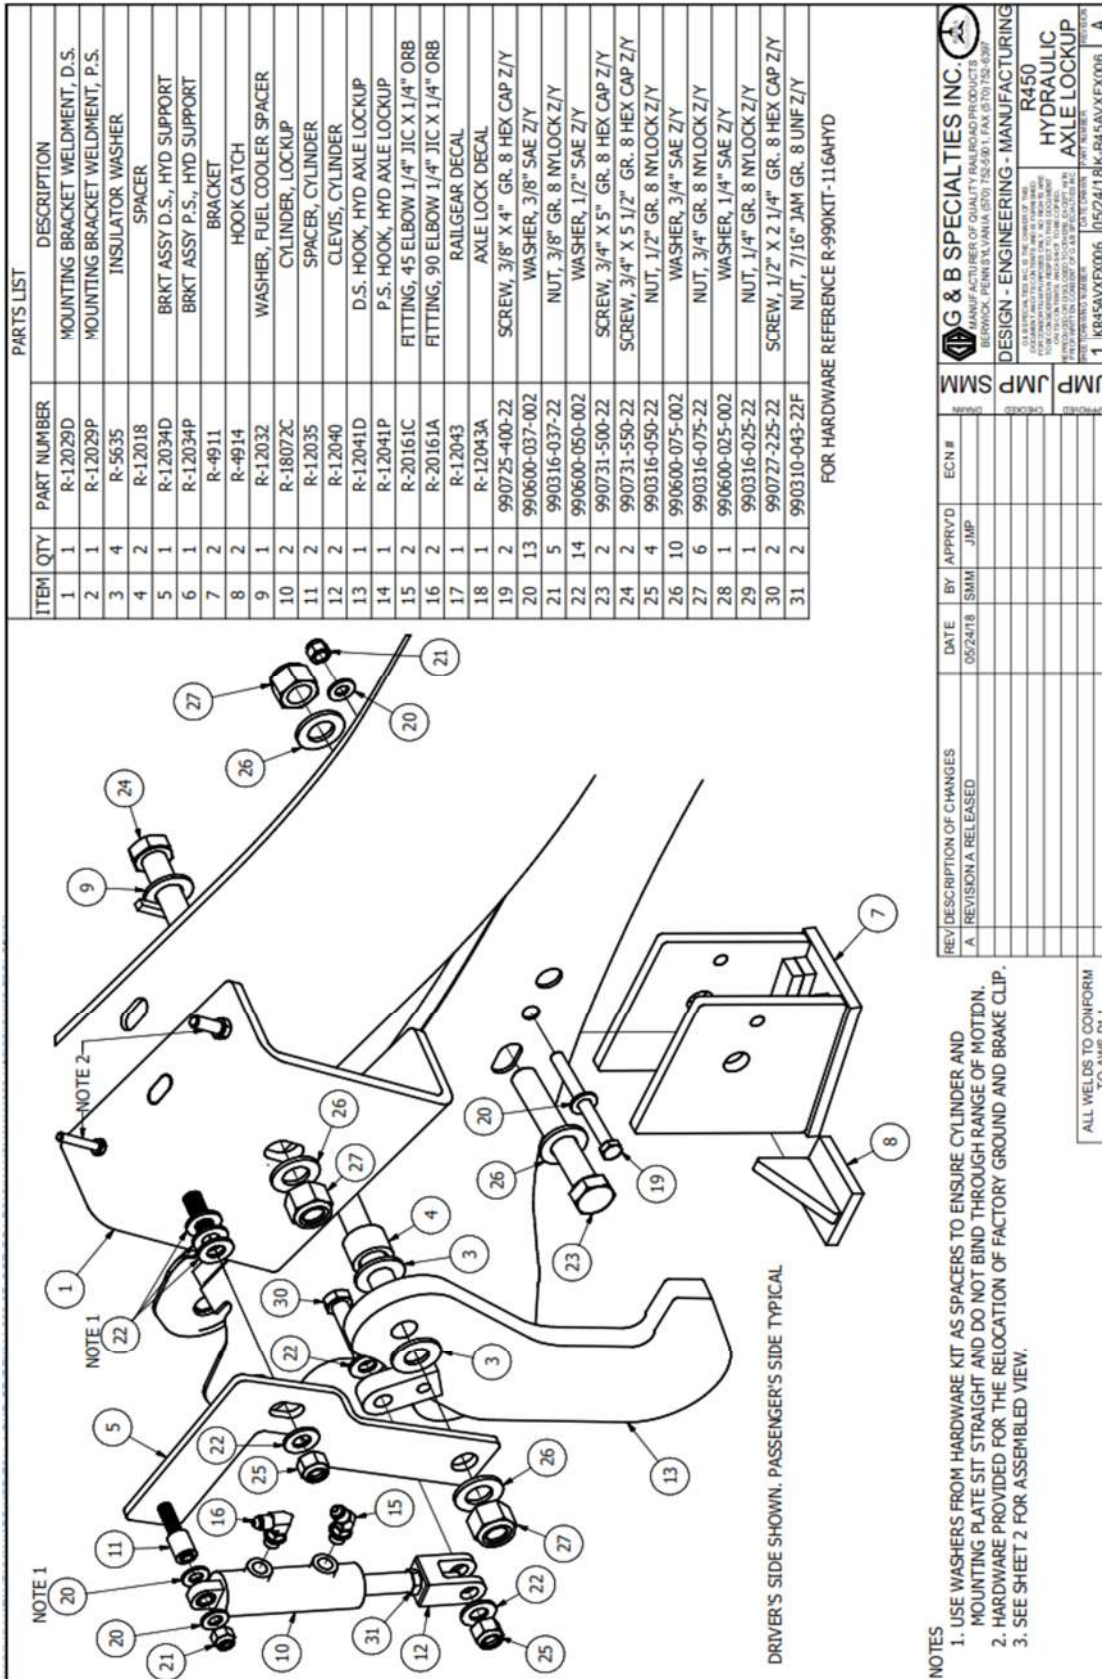

Figure 1
3. Find the slotted hole on top of the frame. Take bracket R-12029D (Driver's Side) and align the locating slug on the bracket with the slot in the frame. When done correctly, slug should drop into the slot on the frame and the bracket sit against the top and outer surfaces of the frame. See (Fig. 1).
4. With the bracket on the frame, center punch the slot on the bracket. Remove bracket and drill a $49/64$ " hole. Hole should line up with existing square hole where we removed the clip from earlier. Check with supplied $3/4$ " bolt to ensure bolt sits parallel and is not angled. Hole may need to be reamed to ensure this. The hole on the outside of the frame can also be obtained by drilling the square hole on the inside of the frame through to the outside. The bracket is slotted for this reason, just ensure bolt sits straight and not on an angle. Once hole is in place and bolt sits parallel, re-install fuel cooler leaving out the clip we removed. Install bracket to frame, using R-12032 and $3/4$ " hardware as shown in Fig. 1. See Fig. 7 for proper install reference. (Passenger side will need the hole drilled through to the inside of the frame. There are no holes present on the passenger side.)
5. On the radius arm you will see a slotted hole with a hole next to it. Take R-4911 and place it on the radius arm with the larger hole in the bracket aligned with the slot, positioned closest to the hole side of the slot. See (Fig.5) Place $3/4$ " bolt that was supplied through the bracket and radius arm to help hold the bracket, and with the bracket against the bottom of the radius arm, mark the center of the small hole of the bracket on frame. You may also mark the center of the hole on the inside of the frame. Drill a $13/32$ " hole through the radius arm, or on the inside and outside where marked. With hole drilled, install bracket using the $3/4$ " and $3/8$ " hardware supplied in kit. See (Fig.1) for reference. Ensure not to over-tighten bolts and deform the radius arm.
6. Assemble the hook, R-12041D, and bracket, R-12034D, onto the all thread and stud as shown in Fig. 1. If lateral adjustment is required supplied spacer can be trimmed down, or washers can be added into assembly to maintain proper clearance with frame, suspension arm, and hook. Nylock nut should be tightened enough to secure hook, but not hinder it from swinging. (R-12041P and R-12034P will be used on Passenger's Side)